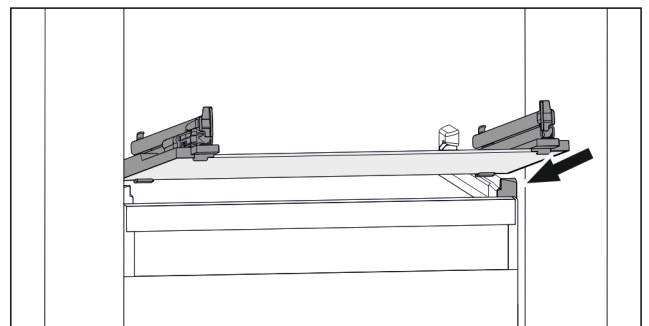

Fig. 121 Example illustration of glass shelf
- ▶ Position glass shelf at an angle behind the stoppers. (see Fig. 121)